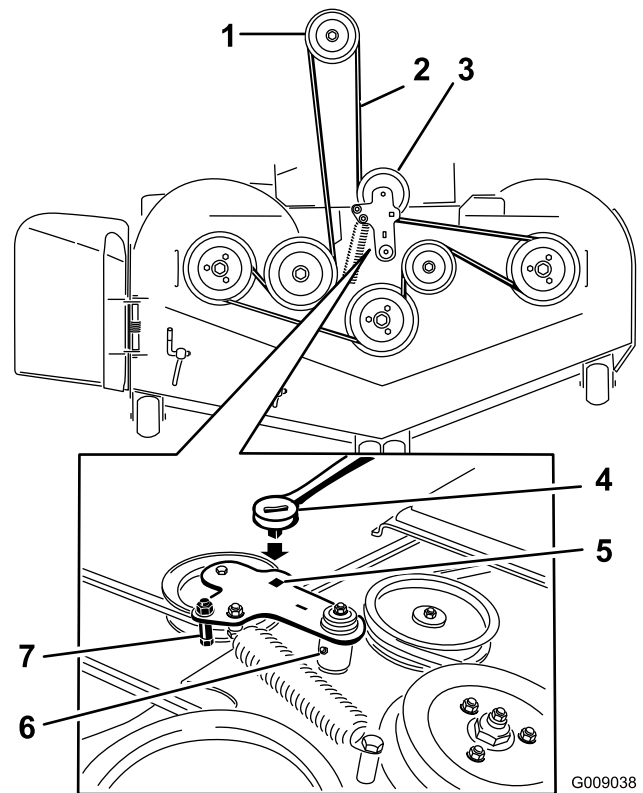

Figure 104
5. Lift the floor pan and insert a ratchet into the square hole in the deck idler (Figure 104).
6. Rotate the deck idler clockwise and remove the mower belt (Figure 104).